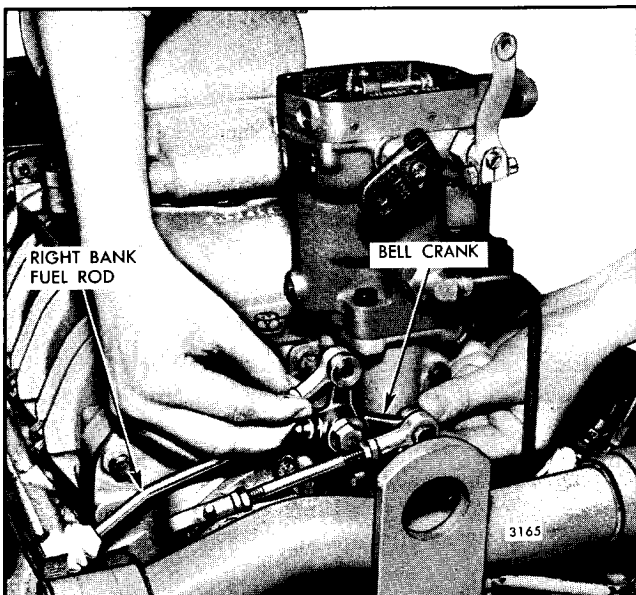

Fig. 4 - Adjusting Length of Right Cylinder Bank Fuel Rod
7. Place the left fuel rod in the FULL-FUEL position and maintain this position by holding the horizontal arm of the bell crank. Then, place the right cylinder bank fuel injector rack in the FULL-FUEL position. Next, adjust the length of the right fuel rod, as shown in Fig. 4, so that the hole in the rod end bearing and the mating hole in the bell crank are aligned as nearly as possible, while maintaining the grease fitting in an upright position. Assemble the fuel rod end bearing to the bell crank and tighten the attaching bolt securely.